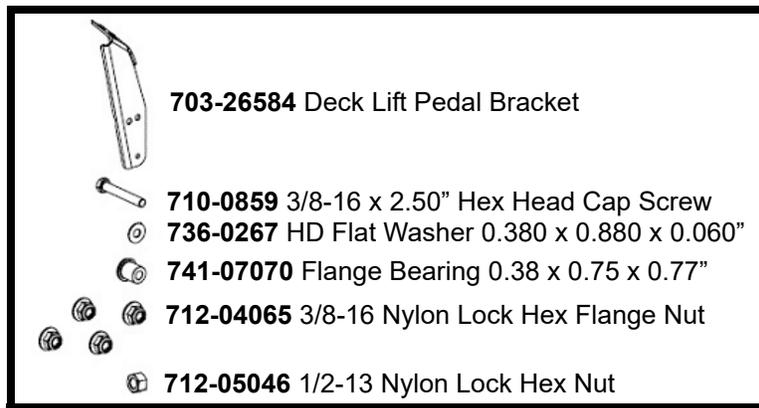

FIGURE 2
7. Retain all items removed to be transferred to the new Frame Assembly except for the items provided in this Service Kit. See Figure 2. **NOTE: Riv Nuts can not be removed and reused.**